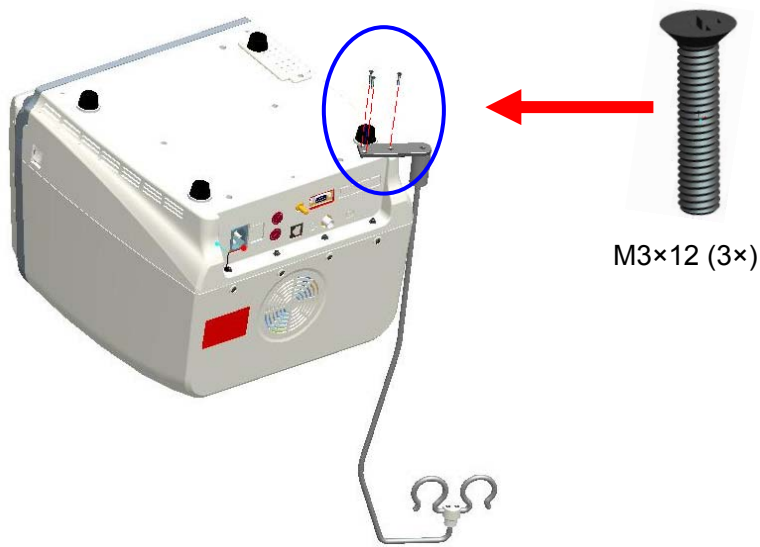

Figure 4-1 Assembling Position of Cable Holder
3. Carefully turn the main unit upside down on the packing foam and assemble the screws to the main unit with a cross-head screw driver as shown in figure 4-1.